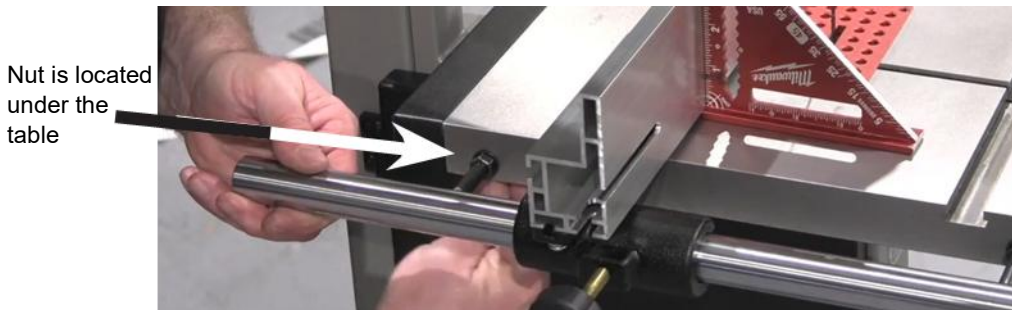

Fig. 42
3. Under the table, loosen one fence guide rail nut. Only loosen one nut at a time (Fig.42).